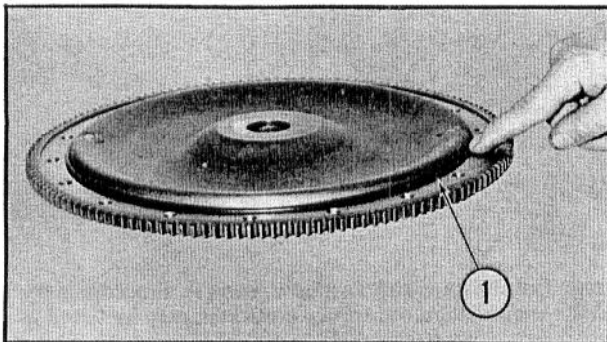

Fig. 2 - Front Cover Assembly
2. Remove and discard the cover "O"-ring seal. See Fig. 2.